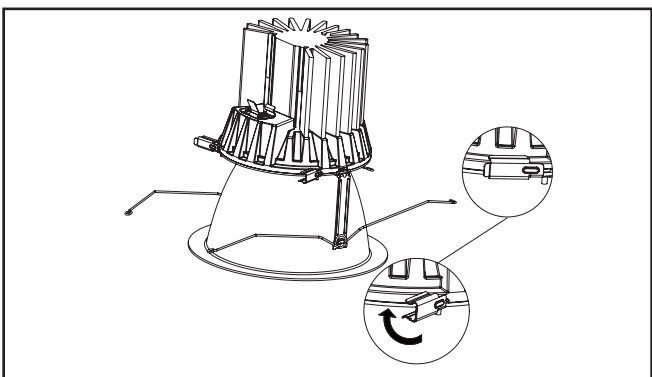

Figure 34
6. Rotate side clips (3) into place to securely attach trim assembly to LED engine (Figure 34).